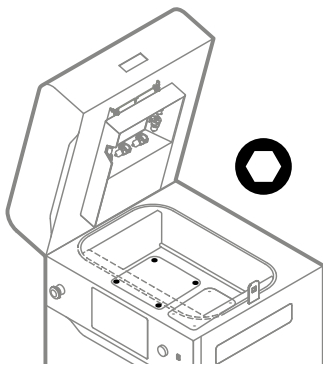

Fig. 12.34 Unscrew the Feed Bed screws.
15. Using a 2,5 mm allen key, unscrew and remove four screws securing the Feed Bed cover (fig 12.34).